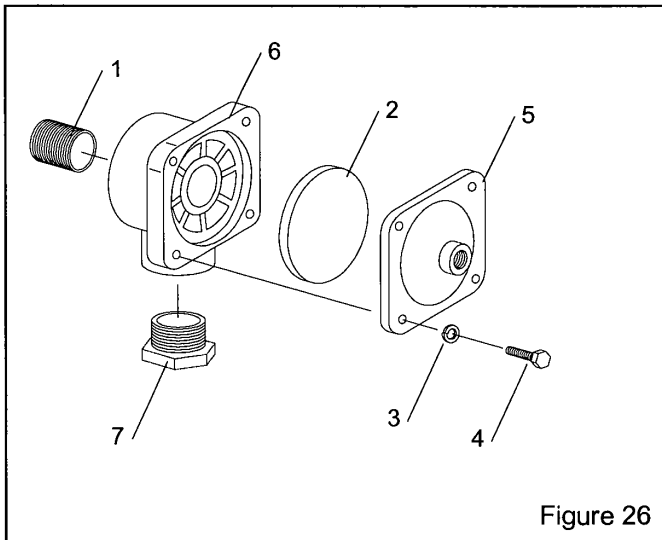

Figure 26
9.9 1" Diaphragm Outlet Valve, Figure 26